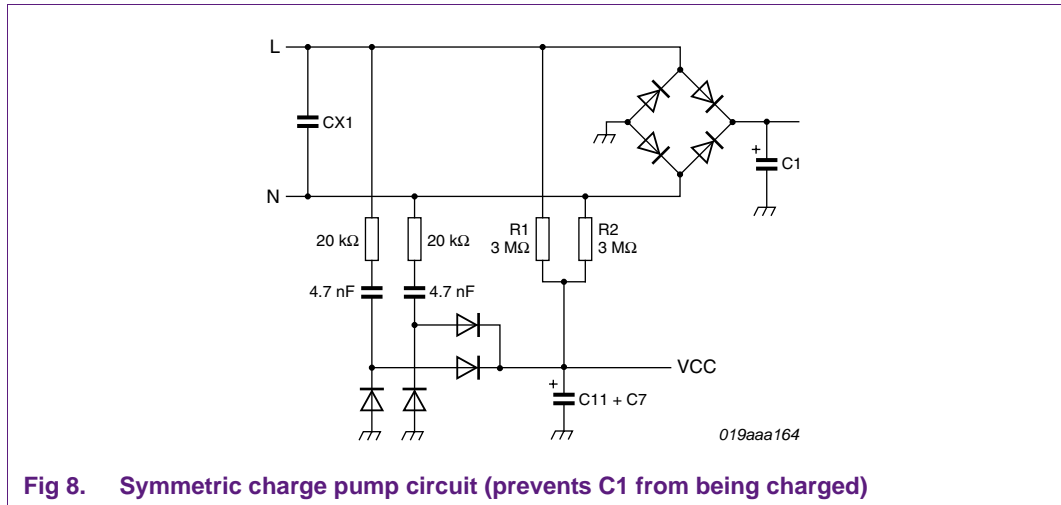

Fig 8. Symmetric charge pump circuit (prevents C1 from being charged)
- Another solution is to add an identical charge pump but connect its input to N instead of L (see Figure 8). In this case the value of  $C_{\text{pump}}$  can be divided by two.